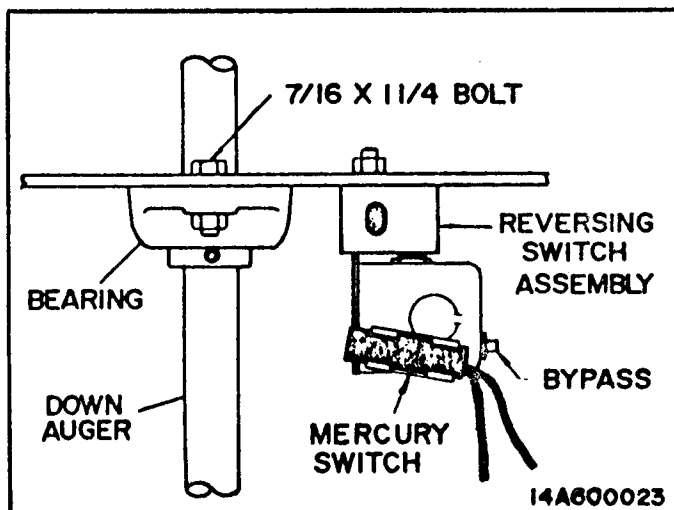

FIG. 23 - DOWN AUGER
2. Slide bottom bearing up and bolt to carriage with 2 - 7/16 x 1 1/4" bolts. Fig. 23. Lock collar by tapping lightly in direction of shaft rotation. Repeat steps 1 & 2 for each carriage. **IMPORTANT: Be Certain to tighten locking collar in direction of shaft rotation.**